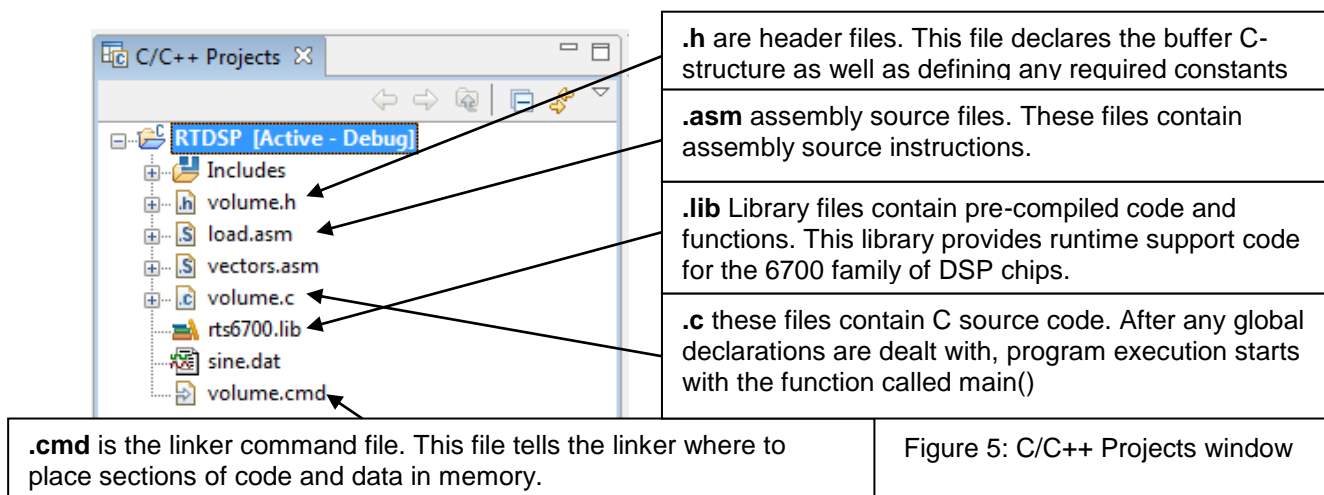

Figure 5: C/C++ Projects window
- Right click **RTDSP** in the **C/C++ Projects** window, choose **Refresh**. Then click the + icon next to it. Your window should look like figure 5: